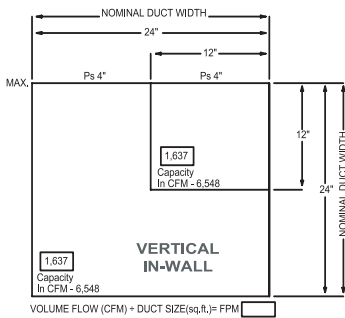

FIGURE 1
- When ordering dynamically rated fire dampers, also refer to Figures 1 through 6 on page 4. When duct sizes are larger than the sizes shown, multiple unit assemblies are required. Since each individual damper in the assembly has its own heat responsive device, it must be assumed that each damper will close at slightly different times. Because of this, Underwriters Laboratories requires that the total volume of air for the assembly must not exceed the allowable rating of the smallest unit in the assembly.